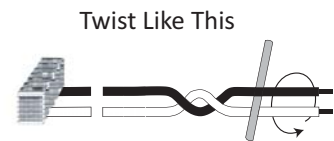

Figure 6-5.
7. Twist loose tails of lead-in wires tightly, approximately ten times per foot. See Figure 6-5.